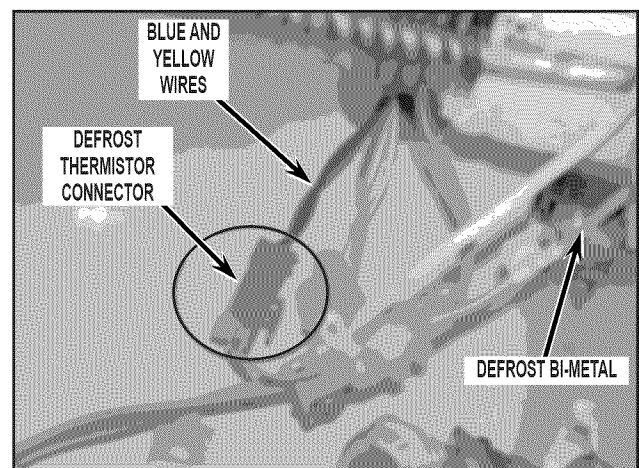

FIGURE 3
7. Locate and unplug evaporator defrost thermistor at the connector. The defrost thermistor is mounted on the evaporator. Follow wire and disconnect at the connector. Leave the defrost thermistor permanently disconnected. See *Figure 3*.